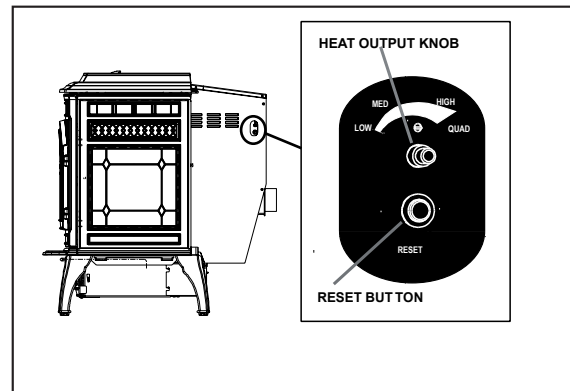
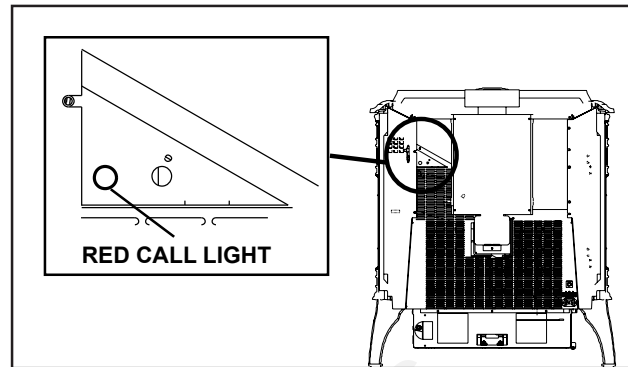

Figure 20.1
Figure 21.1
The set screw is located at the bottom of the hopper and set loose at the factory so the fuel adjustment control rod will slide up and down by only loosening the thumb screw at the top. **See Figure 21.1.** Do not re-tighten bottom set screw.
3. Locate the heat output control knob mounted on the upper right corner of the side panel. **See Figure 20.1 on page 20.** Turn it to the “quad” setting by turning clockwise until it stops and then adjust the thermostat to its highest setting. The red call light located on the upper right corner on the back of the appliance will be on. **See Figure 21.1.** This indicates the thermostat is calling for heat.
3. Occasionally the appliance may run out of fuel and shut itself down. When this happens, the red call light will be on. **(See Figure 21.1, page 21)**. To restart it, fill the hopper and press the reset button. **(See Figure 20.1, page 20)**. When you press the reset button the red call light will go out. Release the button and the light will come back on. You should see a fire shortly. If not, follow the instructions on **page 21**, of “Starting Your First Fire”.